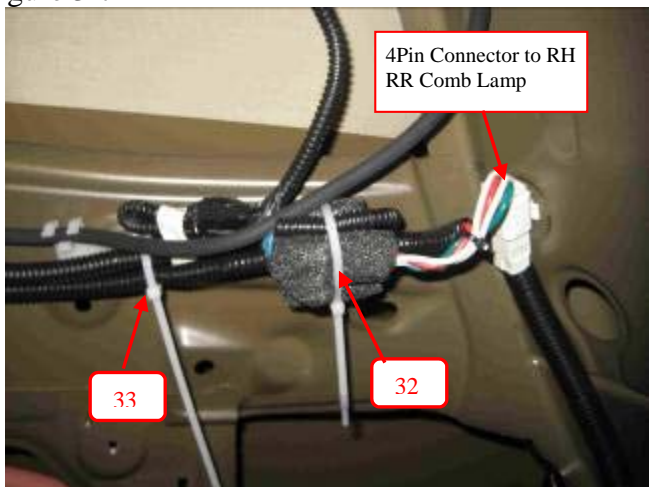

Figure 3-8
- i) Bundle the loose 4Pin connection and plastic junction block of the trailer wire harness to the vehicle wire harness and secure with wire tie #34 shown in Figure 3-8. Then, secure trailer wire to vehicle wire harness with another wire tie.
8" WIRE TIE x 2  (Figure 3-8)